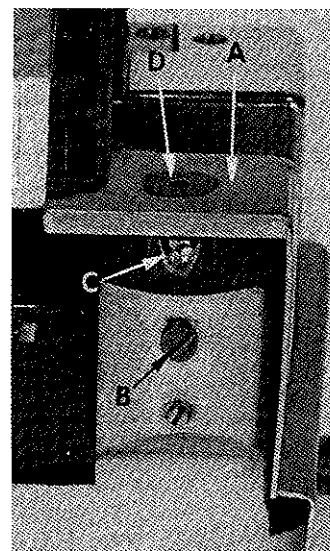

Fig. 15
CAUTION: When removing the cloth plate (A, Fig. 15) loosen the cloth plate stud locking screw (B) and lift up cloth plate with the cloth plate stud (C) and cloth plate screw (D), assembled.